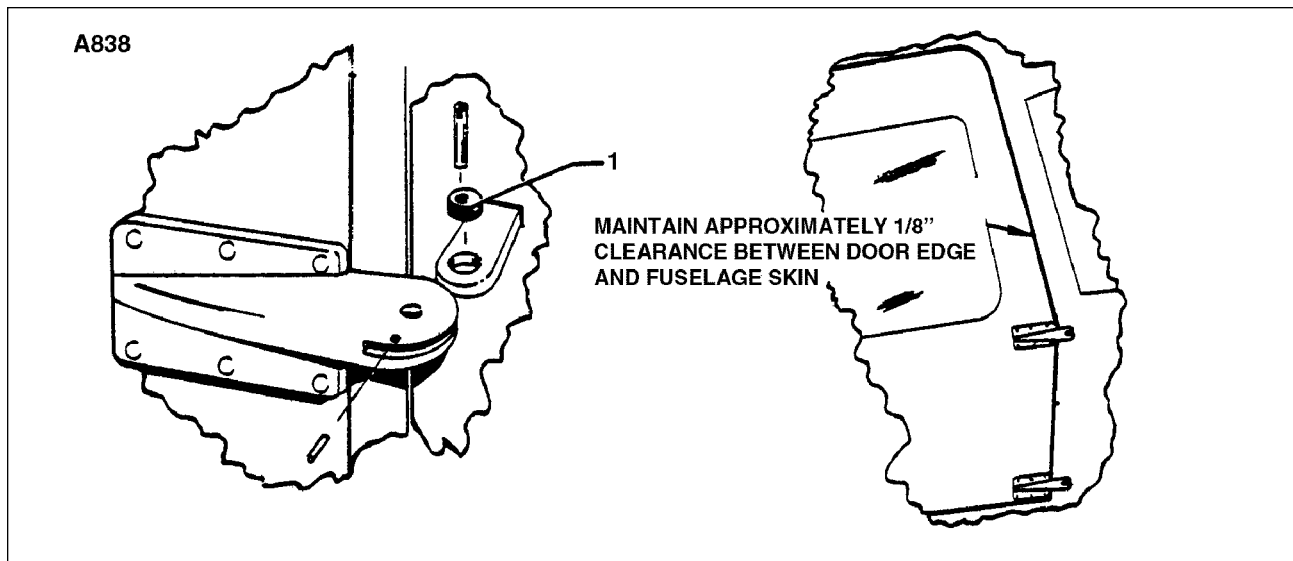

Figure 4-5. Door Installation
- B. Swing the door closed and check for alignment of the main door latch and the auxiliary latch with their respective latch striker plate. If the door fails to align, remove it and reposition the two serrated door hinge bushings. (See 1, Figure 4-5.) Repeat the above procedure until the door is properly aligned.
- C. Once the door is properly aligned with the door frame, the procedure of trimming and fitting the door can be started. Using a small pair of metal shears and a file, trim the door edges until there is an approximate clearance of 1/8 inch between the fuselage skin edge and the door edge. (See Figure 4-5.)